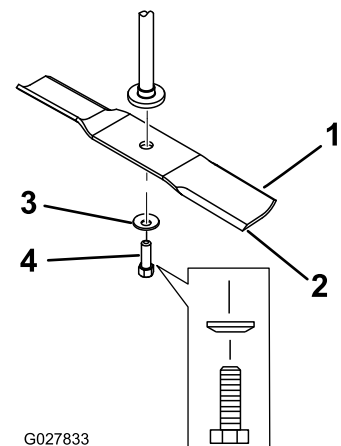

Figure 55
2. Remove the blade bolt, curved washer, and blade from the spindle shaft (Figure 55).
1. Install the blade onto the spindle shaft (Figure 55).
2. Install the curved washer (cupped side toward the blade) and the blade bolt (Figure 55).